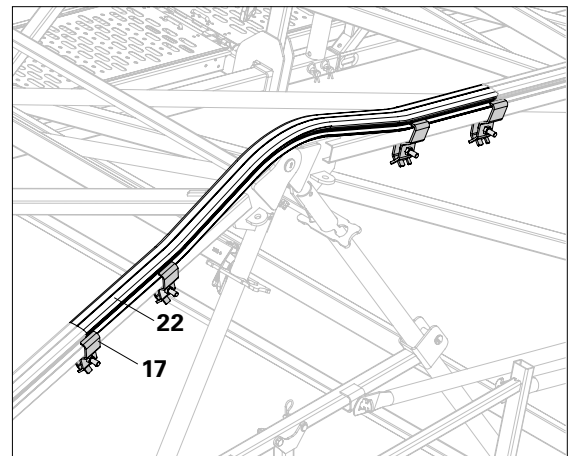

Fig. A5.08a
1. Place Ridge Rail (22) on the outer tube of the Ridge Element.
2. Secure Keder Connector (17) at the joint of the Ridge Rail and Keder Rail – 2x. (Fig. A5.08a)